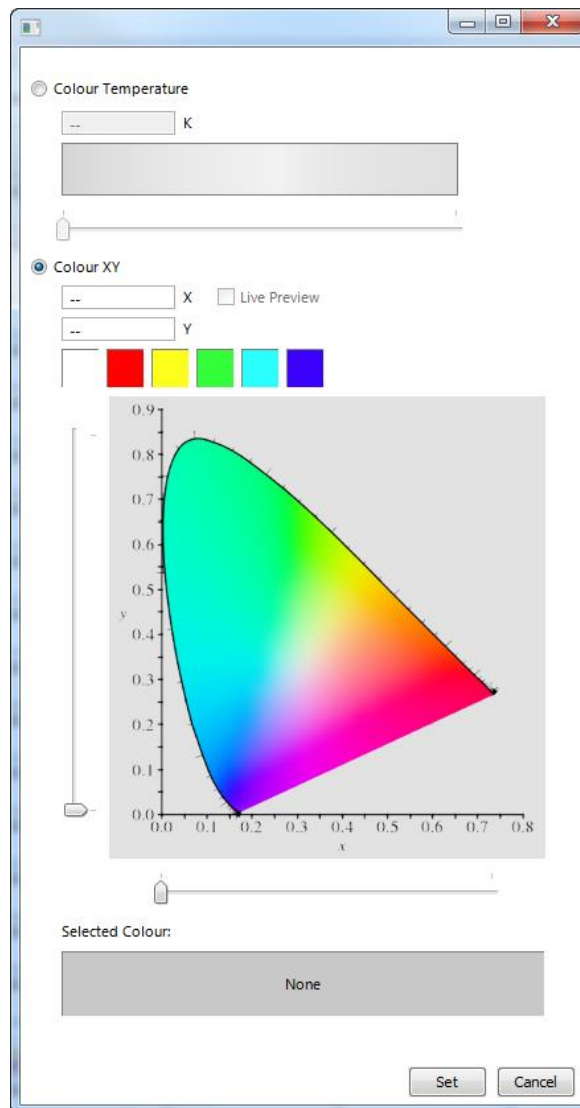

Figure 181: Scene colour selection for devices supporting colour type XY Coordinates.
- **XY Coordinates:** For devices supporting *XY Coordinates* a colour picker dialog as shown in Figure 181 appears when clicking on the  button. Either manually enter the x and y coordinate of the scene colour within CIE 1931 colour space or pick the colour by clicking in the colour diagram on the left side of the dialog. When online and the check box **Live preview** is checked the ballast will dim to the selected colour whenever a new value is selected. The last six colour values used are shown in the history below the colour diagram for quick reference. If the ballast supports *XY Coordinates* and *Colour Temperature* the colour temperature value can be entered as alternative to the colour coordinates.